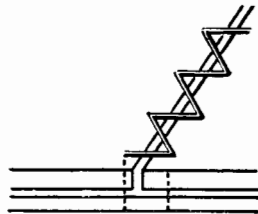

Fig. 153. Cement reinforced by cross-stitching.
3. Reinforce the cement by cross-stitching, as shown in Figure 153. A cross-stitching attachment is available for the sewing machine, eliminating the constant raising of the presser foot (Fig. 308). Once this device is attached it need not be removed when doing regular sewing.
Frequently the seam which unites the two sections of the quarters in the back of the shoe rips, thus straining the seam which attaches the backstay causing it to rip. To repair this, the backstay should be ripped all the way around, and the seam uniting the quarters should be stitched together by hand, with an overseam as shown in Figure 153. The backstay then should be cemented and stitched down.